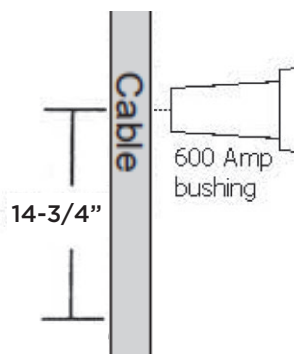

Fig. 1 - Cable Train & Outer Jacket Removal
- B. To provide sufficient length of concentric neutral conductor for grounding after installation, measure 14 3/4" down the cable from the centerline of the bushing interface and remove the jacket to this distance. Care should be taken not to damage neutral wires. (See Figure 1.)